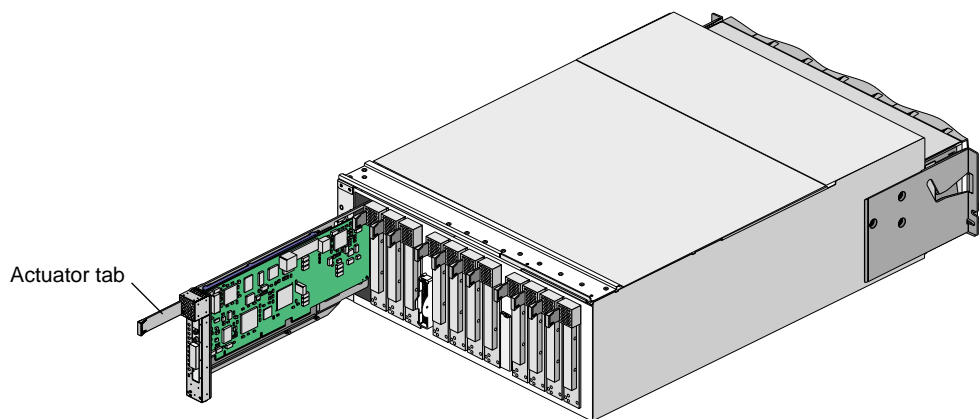

Figure 2-9 Installing PCI Card in PCI Slot
5. Insert the PCI card and carrier into the vacant slot, using the slot guides, as shown in Figure 2-9. Then slide the carrier into the module by grasping the PCI card carrier by its edges and sliding it into the module.